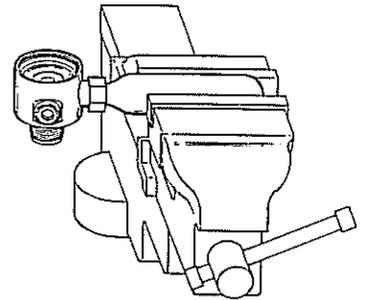

FIGURE 4
1. Screw an empty CO2 cartridge, clockwise into a low-pressure adapter (Item 52). Then screw the adapter and cartridge clockwise into one of the low-pressure ports on the first-stage body (Item 1). Mount the first-stage body in a bench vise, main-spring side facing upward, by means of the CO2 cartridge. (See Figure 4)